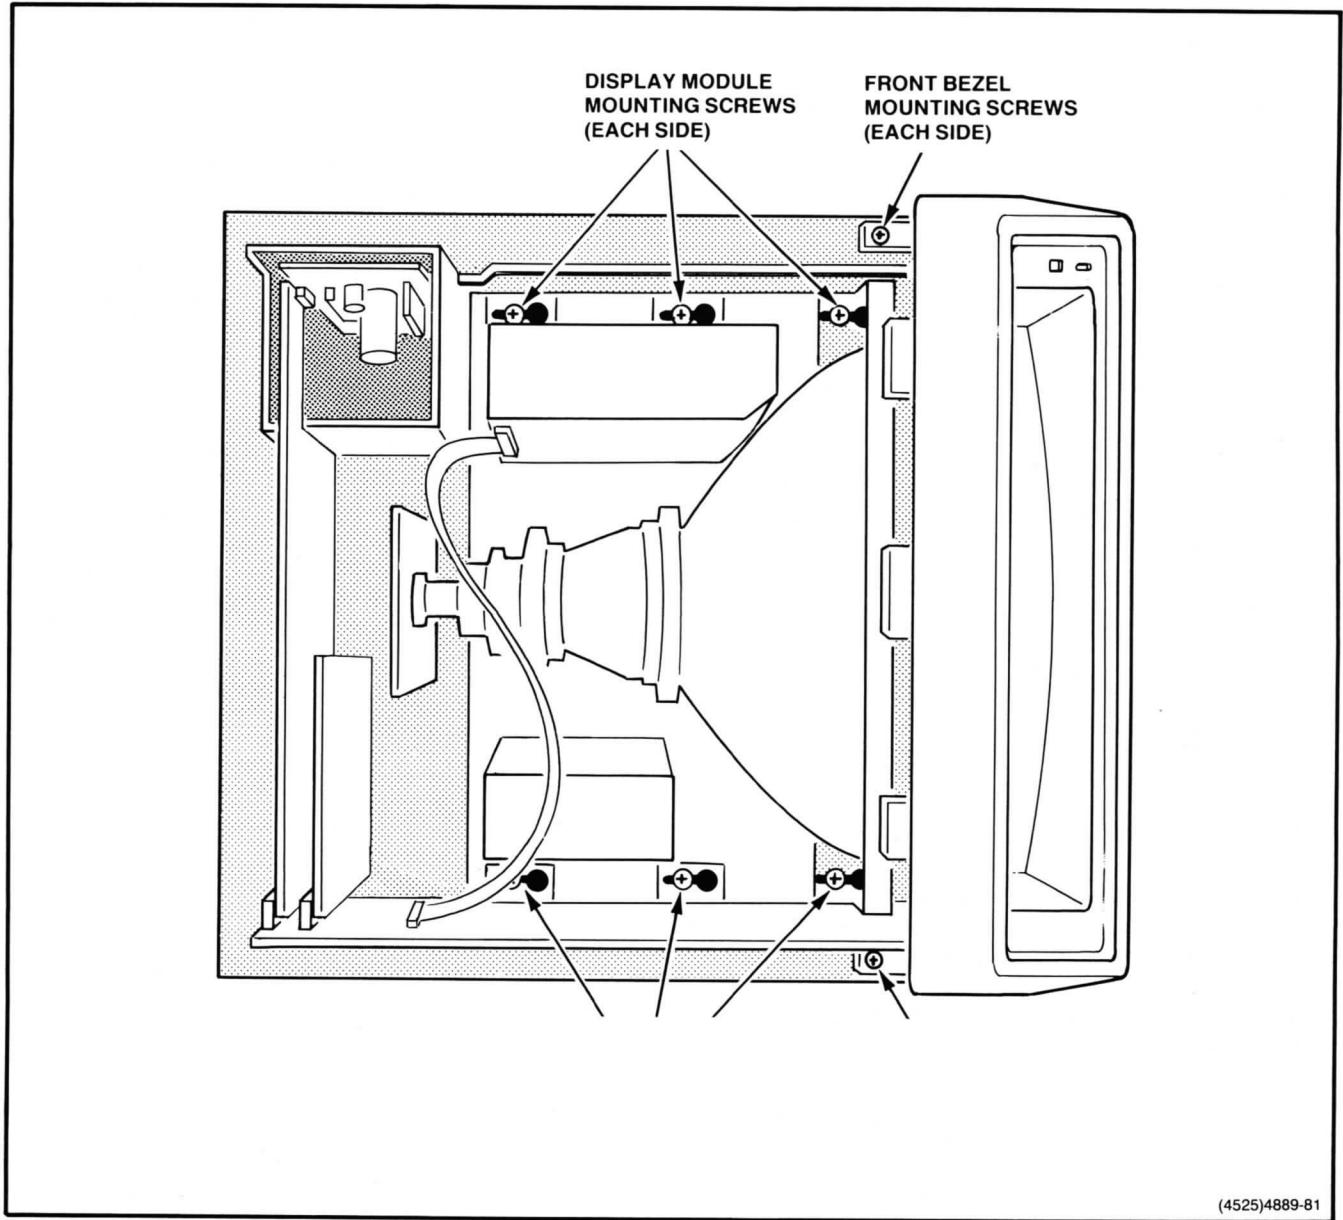

Figure 6-7. Mounting Screws for the Front Bezel and Display Module.
The Display Module mounts to the terminal with six screws. These screws are located in rails on each side of the Display Module. They screw into threaded brass inserts in the base of the terminal. See Figure 6-7.
2. Remove the main front bezel that surrounds the CRT and contains the BRIGHTNESS and POWER controls. This bezel attaches with two screws (one on each side). See Figure 6-7.